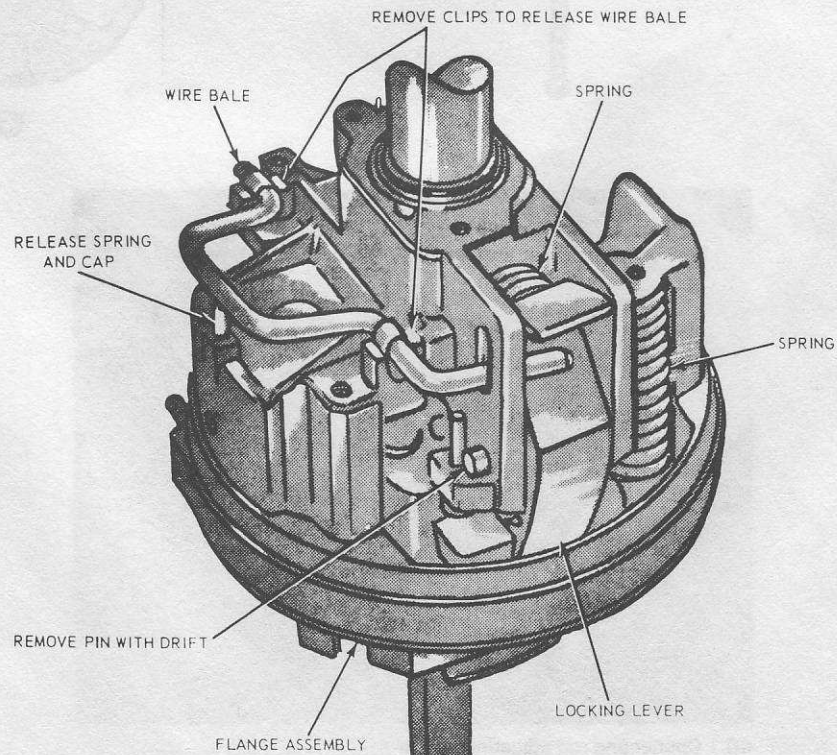

Fig. 11.71 Removing the wire bale and tilt locking lever (Sec 39)
- 12 Remove the two spring clips holding the wire bale which acts as a release lever for the locking lever and remove the wire bale (see Fig. 11.71).